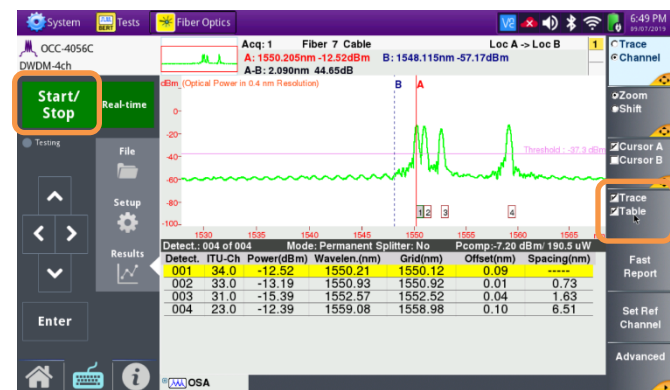

Figure 8: Results
2. Tap the **Trace/Table** soft key to display results in graphical and tabular formats, as shown in **Figure 8**.